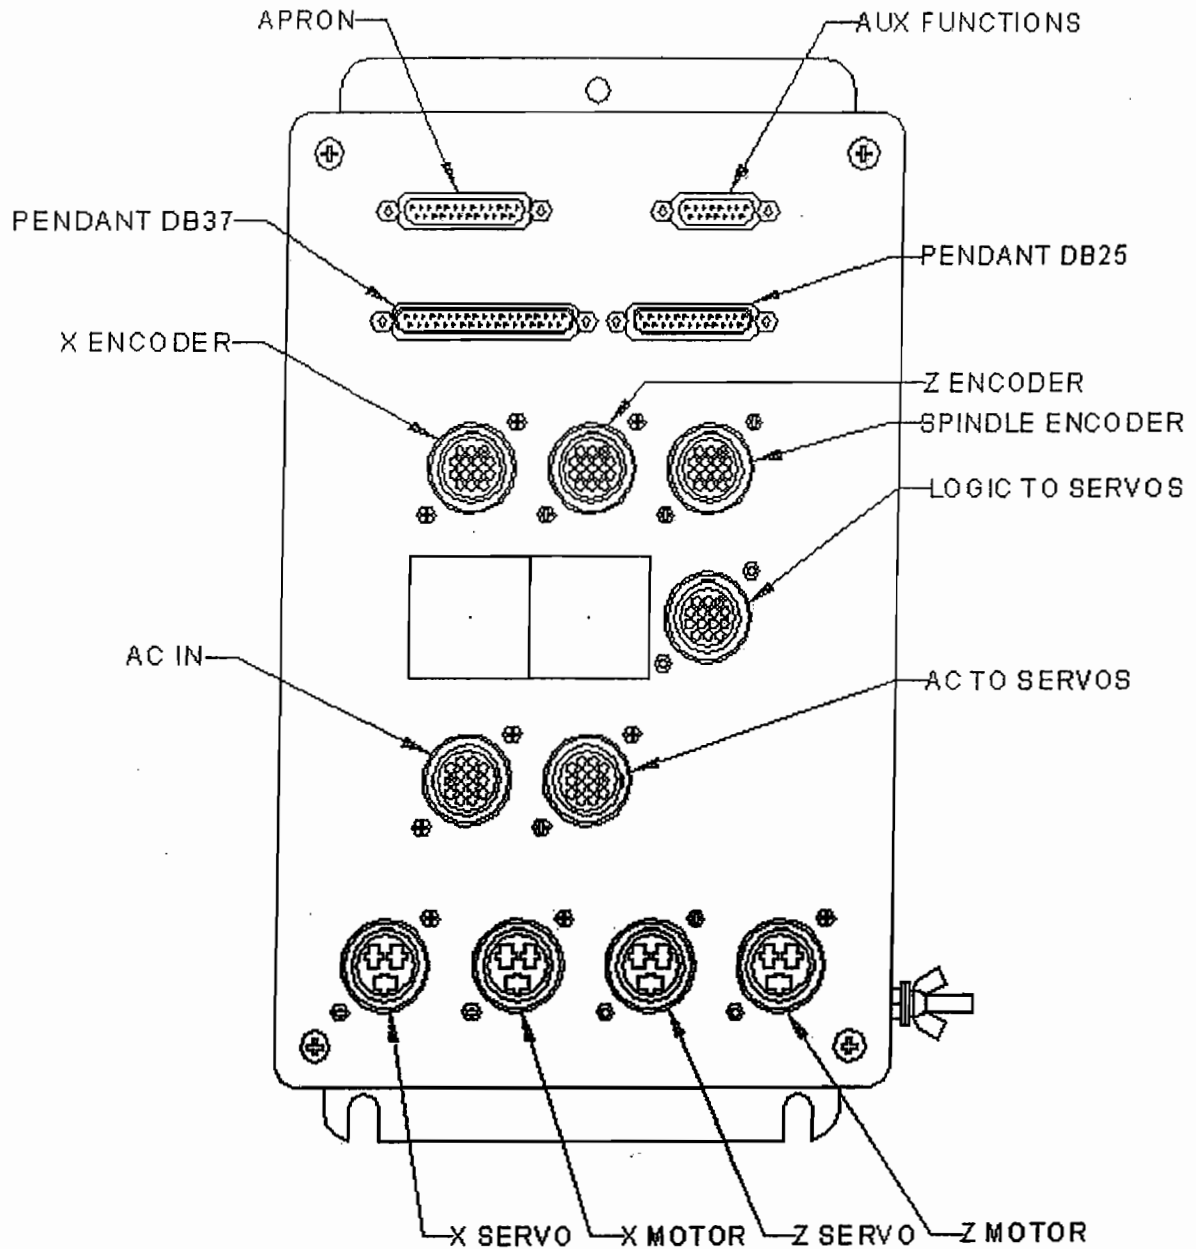

Figure 4
3.6 The Sport Lathe (Figure 4)
4.3 Spindle Forward/Off/Reverse (Figure 4)
4.4 Changing Spindle Speeds (Figure 4)